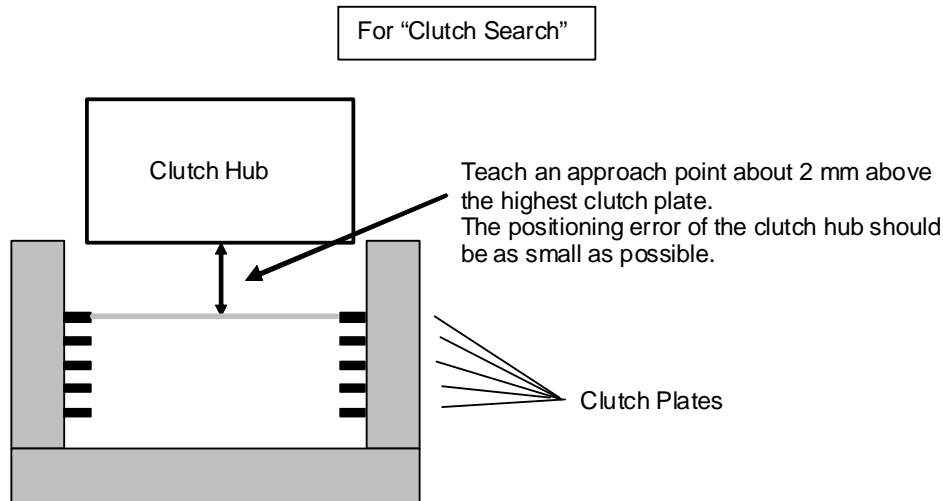

Fig.3.2(c) Teach an approach point
- 3 Insert a Force control instruction behind the approach point, as is shown in Fig.3.2(d). For details on the force control instructions, see section 3.3, "FORCE CONTROL INSTRUCTIONS".